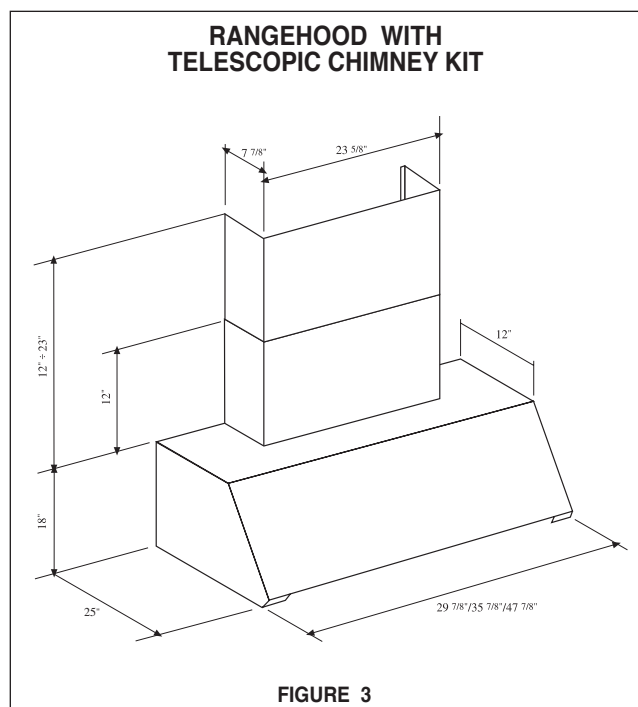
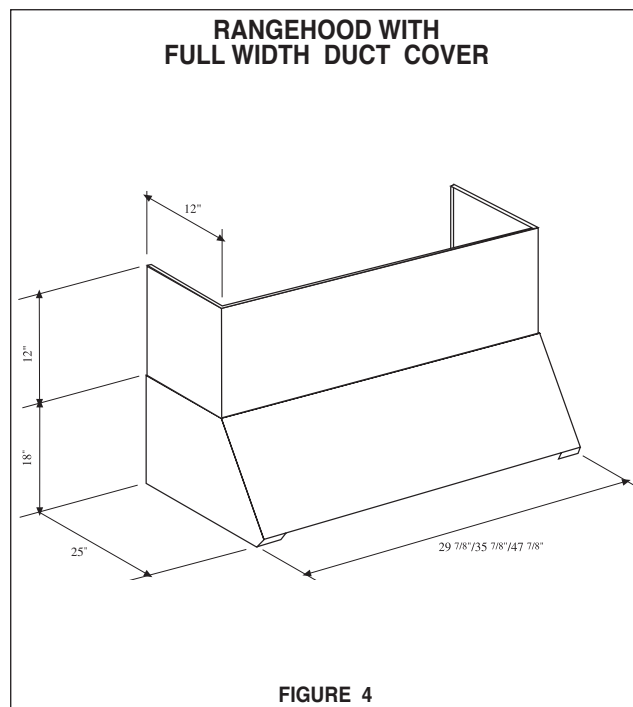

FIGURE 3
FIGURE 4
• Telescopic Chimney Kit (FIGURE 3)
• Full Width Duct Cover (FIGURE 4)
The **Telescopic Chimney Kit** is adjustable and designed to meet varying ceiling heights from 8 to 9 feet. **FIGURE 3** illustrates the dimensions of the rangehood with the optional **Telescopic Chimney Kit**. **FIGURE 4** illustrates the dimensions of the rangehood with the optional **Full Width Duct Cover**. The body of the rangehood is the same dimensions regardless of the chimney option used.